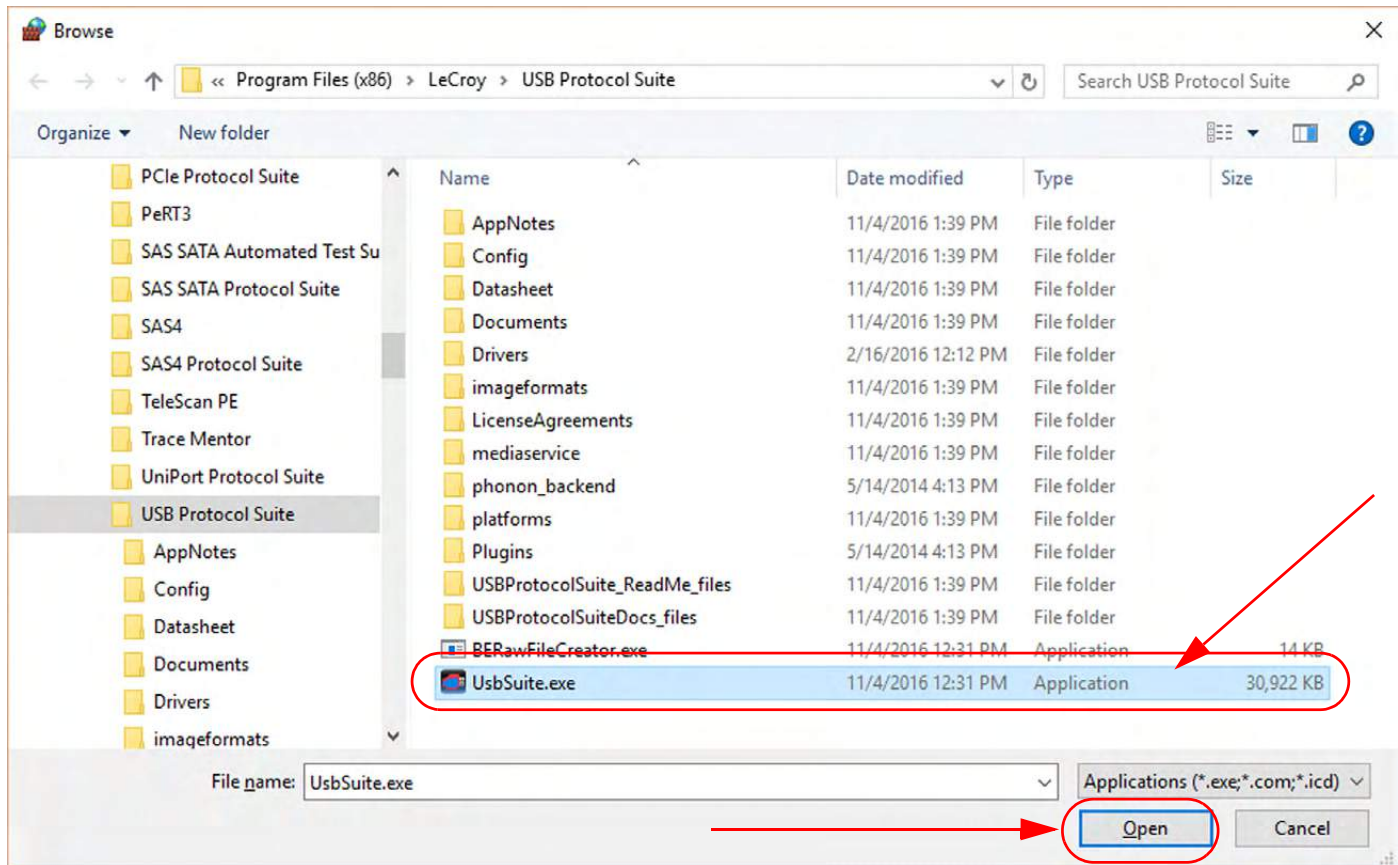

Figure 3.25: Windows 10: Browse to Find Application -> USB Protocol Suite Application
7. In the Browse window navigate to the location of the installation directory for the USB Protocol Suite you are installing. The Teledyne LeCroy USB Protocol Suite is typically installed on your machine in the C:\Program Files (x86)\LeCroy\USB Protocol Suite directory. See Figure 3.25.
9. If necessary, select the Teledyne LeCroy USB Protocol Suite you want to add. Then click on “ADD”, this will add the Teledyne LeCroy USB Protocol Suite software to the Apps allowed through the Firewall. See Figure 3.25.